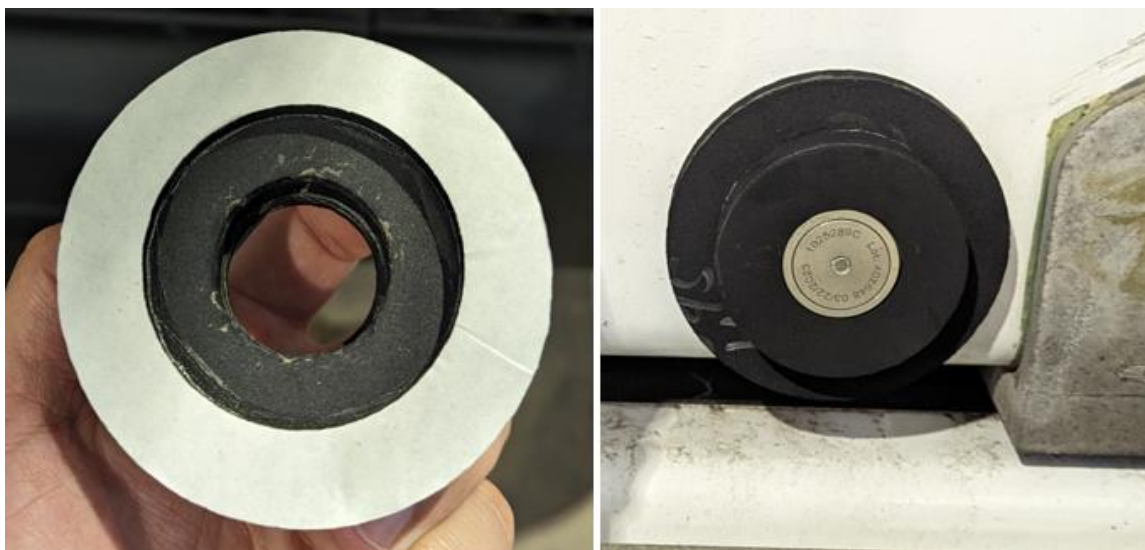

Figure 3: Remove White Backing (L) and Adhere Foam Puck to the ESS Port and Drain Assembly (R) – Repeat for all Drains.
7. A complete ESS enclosure will contain four drains. Carefully peel the white backing off of the insulation and apply a pre-formed foam puck (PN 1040861) over the ESS port and drain assembly. Repeat for all ESS drains on vehicle. Reference Figure 3 below for an installed foam-puck.